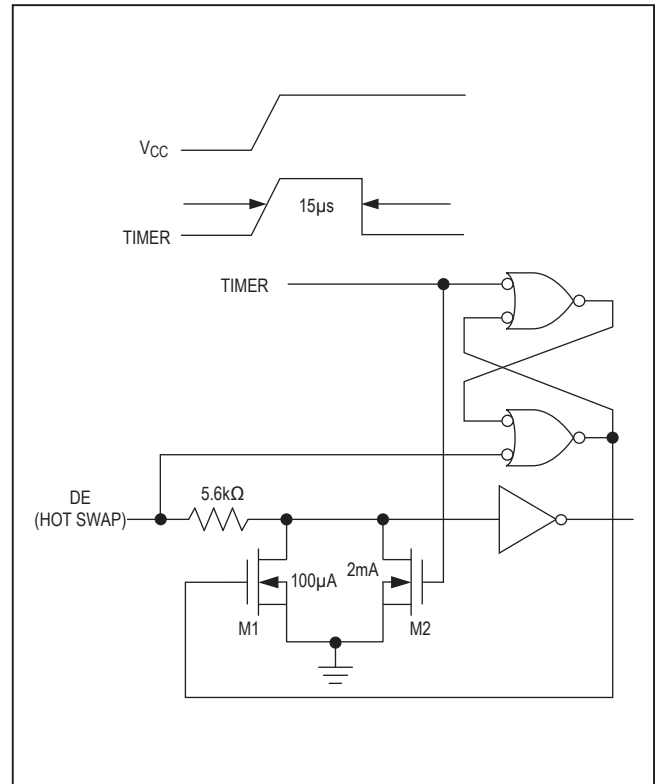

Figure 10. Simplified Structure of the Driver Enable Pin (DE)
At the driver-enable input (DE), there are two NMOS devices, M1 and M2 (Figure 10). When  $V_{CC}$  ramps from zero, an internal 15 $\mu$ s timer turns on M2 and sets the SR latch, which also turns on M1. Transistors M2, a 2mA current sink, and M1, a 100 $\mu$ A current sink, pull DE to GND through a 5.6k $\Omega$  resistor. M2 pulls DE to the disabled state against an external parasitic capacitance up to 100pF that may drive DE high. After 15 $\mu$ s, the timer deactivates M2 while M1 remains on, holding DE low against three-state leakage currents that may drive DE high. M1 remains on until an external current source overcomes the required input current. At this time, the SR latch resets M1 and turns off. When M1 turns off, DE reverts to a standard, high-impedance CMOS input. Whenever  $V_{CC}$  drops below 1V, the input is reset.